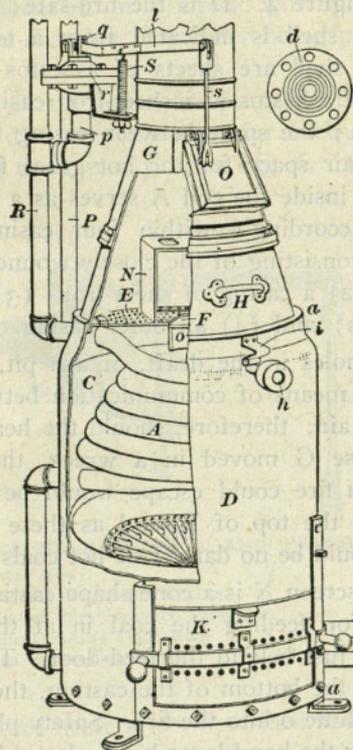
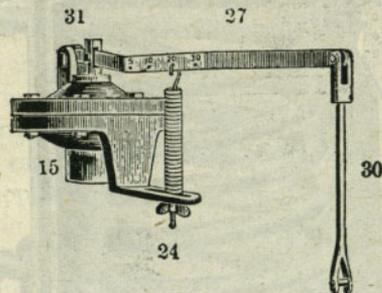

FIG. 4. IMPROVED FIRE-PROOF HEATER.
FIG. 5. AUTOMATIC REGULATOR AND PRESSURE INDICATOR.
There is a fire-safe consisting of an outside shell or casing made of a flexible grade of steel, without joint or seam. See Figure 4. D is the fire-safe; the depth of the casing or shell is indicated from a to a. On the inside of the shell are sheets of asbestos and next to these layers of asbestos is a sheet-iron casing C, enclosing the coil A; the space between casing C and coil A serves as an air space for the hot gases from the fire, and the space inside the coil A serves as a fire chamber. The fire is accordingly within four casings: (1) A water casing consisting of the closely wound coil A filled with water; (2) a casing of sheet-iron; (3) a casing of asbestos layers; and (4) an outer casing of steel plate.
The smoke screen N is a cone shape casting, as shown in Figure 4 for feeding the coal in at the front, the opening being just behind the feed-door. The coal goes down through the bottom of the casting, thence through the coal feed-chute o into the fire. Safety plate F, which is controlled by the hand lever h (the latter being held in place by the spring i), closes the hole in the bottom of the screen N, the top of which has small holes as shown, for the smoke to pass through.
The fire-proof heaters just described have an automatic arrangement for regulating the fire according to the pressure in the heater and the temperature in the radiating pipes. It is in effect a draft regulator, as shown by the letter r in Figure 4. It is also shown in detail in Figure 5. It will be seen that a pipe indicated by p leaves the riser R at the point shown and runs into the regulator
To test for the amount of water in the drum and piping the fire should be low and no pressure in the heater. The height of the water in the drum should be noted by means of the combination cock C, Figure 5. If the water is at the right height it will run out of the drip pipe when the cock C is opened. To renew water when necessary to do so, it should be put in through the filling funnel f, which is attached to the cock C. When through the cock should be closed and the funnel turned down.